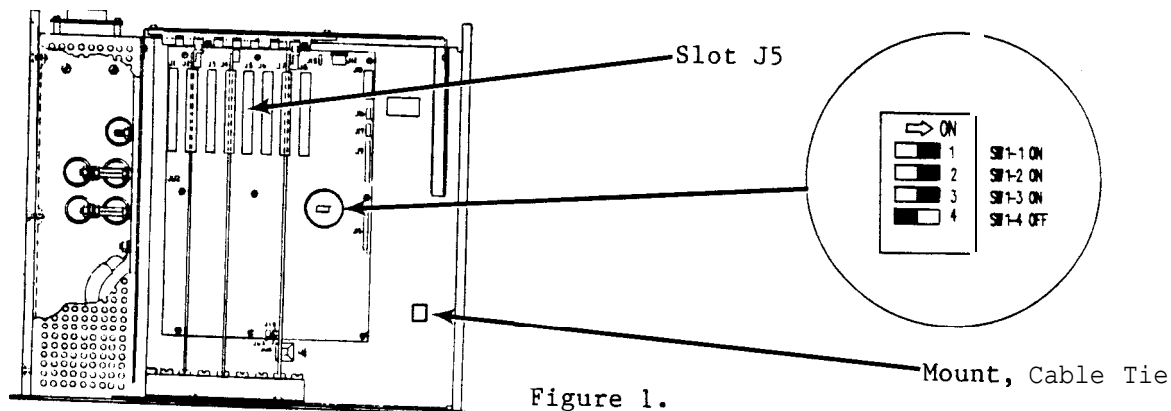

Figure 1.
4. Check the switch settings of the Computer PCB's SW1-3 must be on see figure 1.
7. Install the Modem PCB in the slot J5 shown in Figure 1.
13. Install Cable tie mount as shown in Figure 1. Install cable tie in mount and around Modem cable.